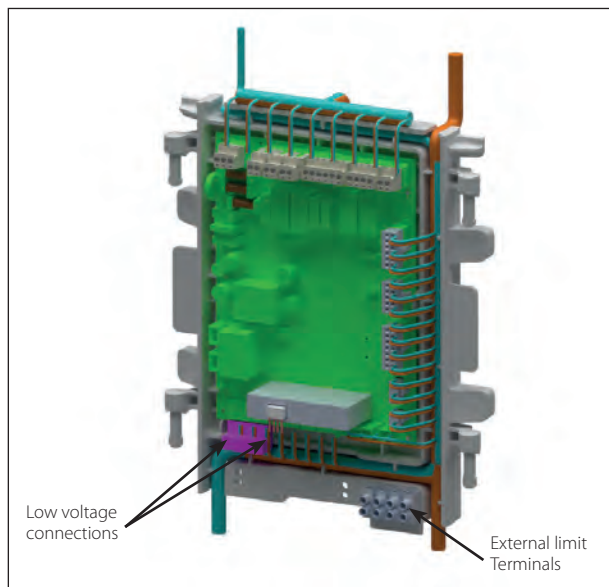

Fig. 34 - Low Voltage Connections
1. Connect the DHW aquastat or temperature sensor wires to low voltage terminals X4-1&2 located at the bottom of the CTRLMax control module as shown in *Fig. 34 on page 49*.
3. Connect the external limit wires to the Manual Reset Limit or Auto Reset Limit low voltage terminals located on the lower right corner of the CTRLMax control module housing as shown in *Fig. 34 on page 49*.
1. Connect the system temperature sensor wires to low voltage terminals X5-3&4 located at the bottom of the CTRLMax control module as shown in *Fig. 34 on page 49*.